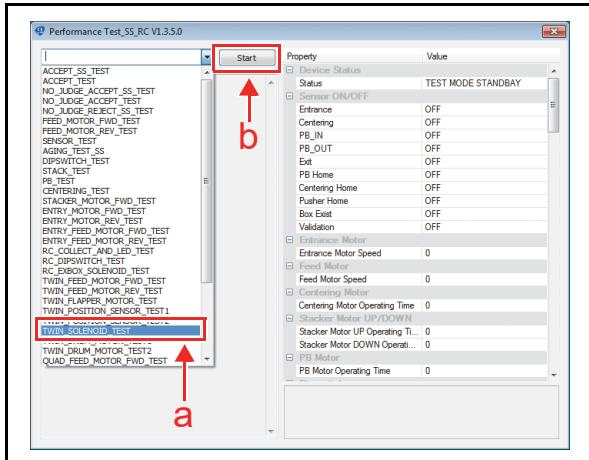

**Figure 6-46 Note Position Sensor A -C Test 2**
6. Confirm the “ON/OFF” indication (Detected/NOT Detected) appeared in the “RC-Position sensor 2 (RC-Twin)” area (Figure 6-46 a).
7. Click the “Stop” Screen Button (Figure 6-46 b) to end the test.